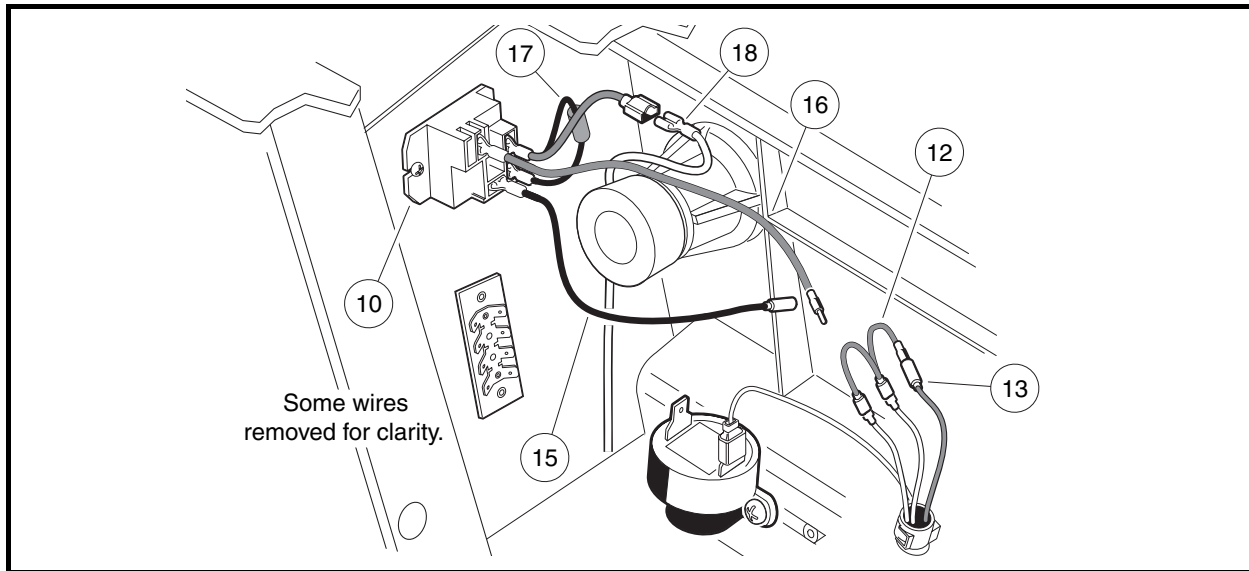

Figure 11-37 Bypassed Brake Light Relay
13.1. Remove the voltage suppressor wire assembly (17) from the relay (10) coil terminals (**Figure 11-37, Page 11-36**).